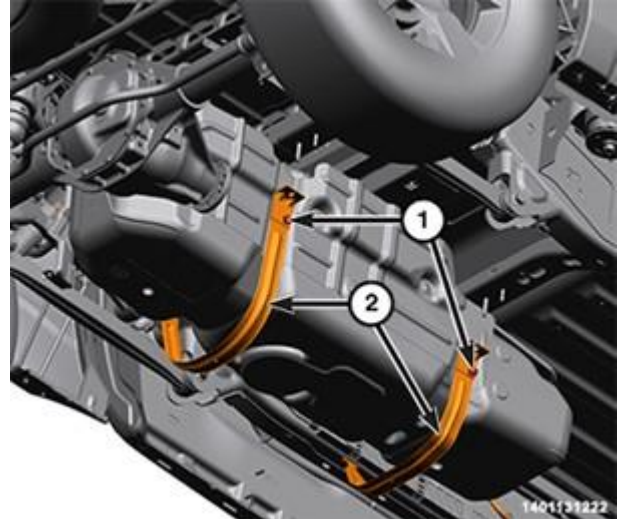

Figure 87 – Low Pressure Supply Lines
169. Install the fuel tank straps (2) and tighten the nuts (1) to 54 N·m (40 ft. lbs.) (Figure 87).